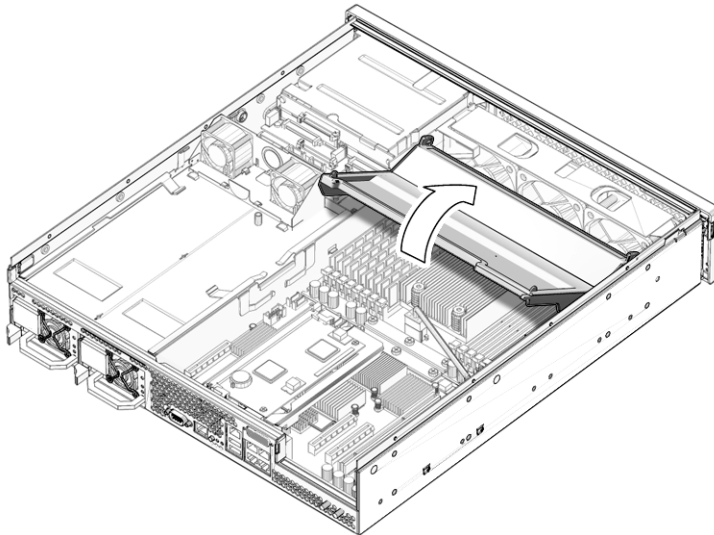

FIGURE 3-46 Raising the DIMM/CPU Duct
2. Raise the DIMM/CPU duct into the vertical position (FIGURE 3-46).